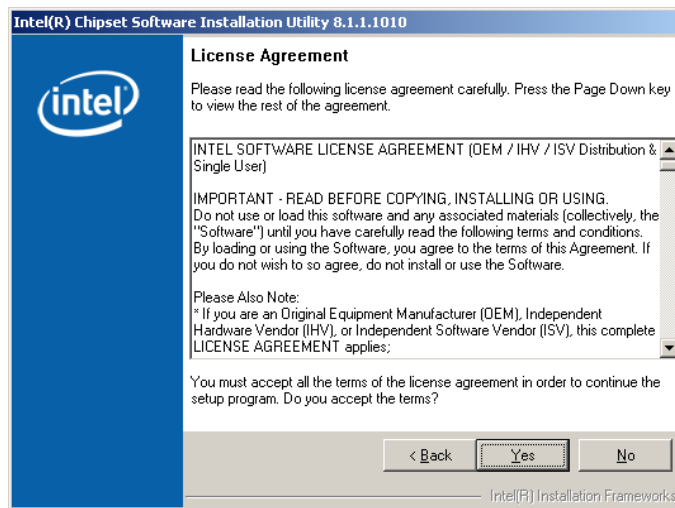

Figure 7-5: Chipset Driver Installation License Agreement
Step 6: The license agreement in Figure 7-5 appears.